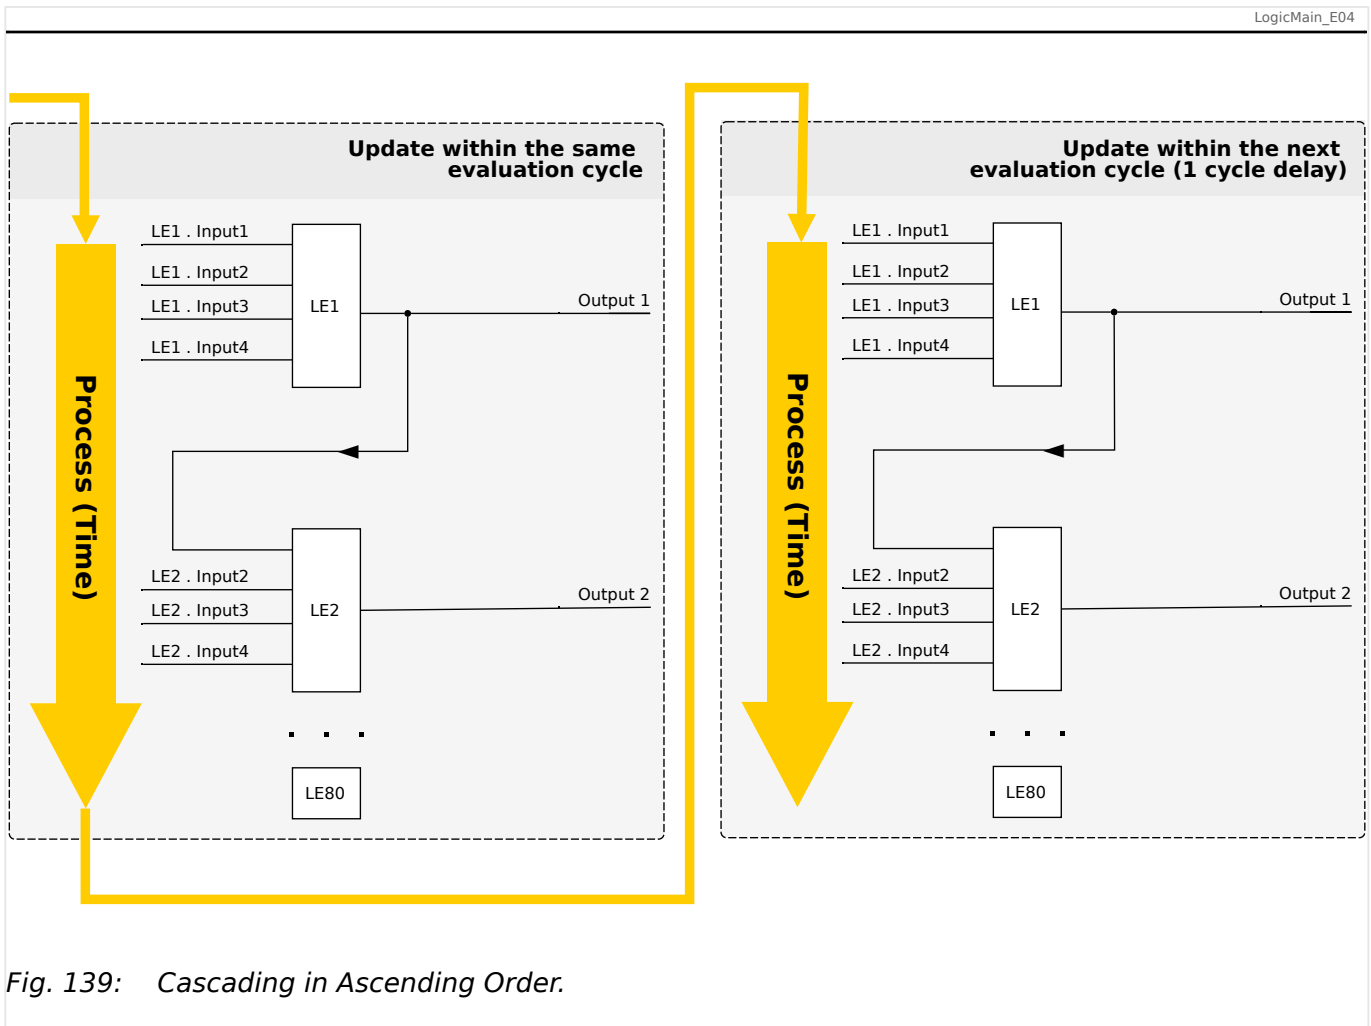
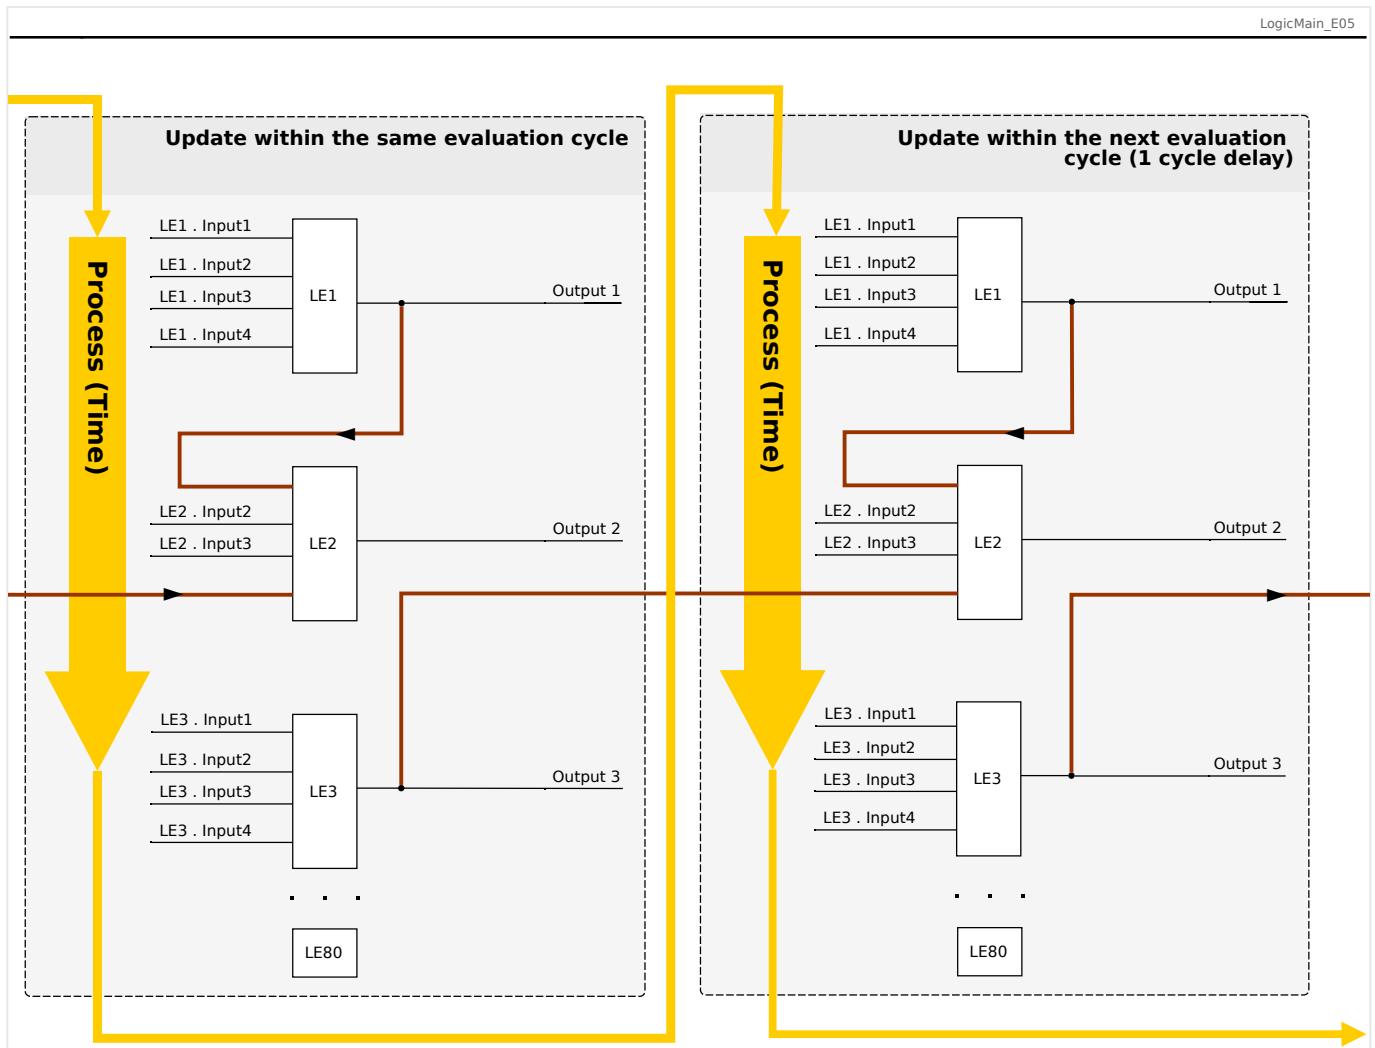

Fig. 139: Cascading in Ascending Order.
Fig. 140: Cascading in Descending Order.
- **Ascending** sequence means that some output is fed into the input of a logic equation with **higher** number. For instance, diagram  Fig. 139 below shows an example where the result of Logic Equation LE1 is used as an input of Logic Equation LE2.
- **Descending** sequence means that some output is fed into the input of a logic equation with **lower** number. For instance, diagram  Fig. 140 shows an example where the result of Logic Equation LE3 is used as an input of Logic Equation LE2.
Both ascending and descending sequences may be used and combined one with the other, with no immediate difference. However, due to the evaluation of all equations in ascending order the actual run-time values that are fed in at the input of an equation will have a different “age”, as is shown in  Fig. 139 and  Fig. 140 below.
In the example shown in Fig. 140 above, “Logic Equation 2” uses the output states of two other equations, “Logic Equation 1” and “Logic Equation 3”. The result of “Logic Equation 1” is used in ascending order and has therefore been evaluated within the same process cycle. The result of “Logic Equation 3” is used in descending order and has therefore been evaluated in the previous process cycle.